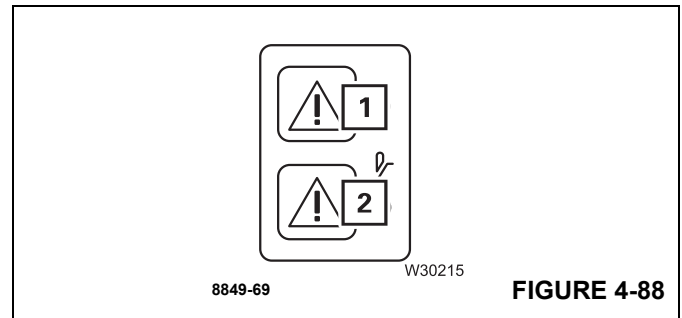

FIGURE 4-88
The crane movements are reactivated when you have returned to a normal operating state below the maximum permissible load capacity – lamps (1), (Figure 4-88) and (2), (Figure 4-88) go out.